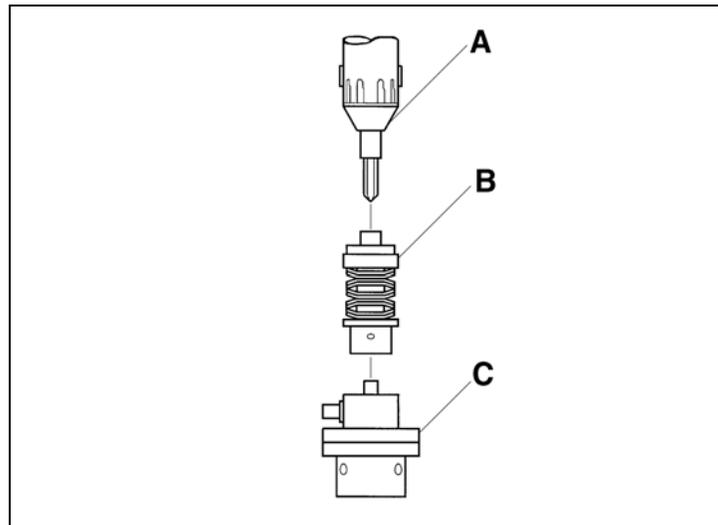

Figure 4-1: Power Tool Test Setup
6. Install the joint rate simulator onto the MULTITEST transducer, as shown in *Figure 4-1*. Secure the transducer set screw, if provided. Loosen the simulator load screw using the appropriate hex or box wrench.